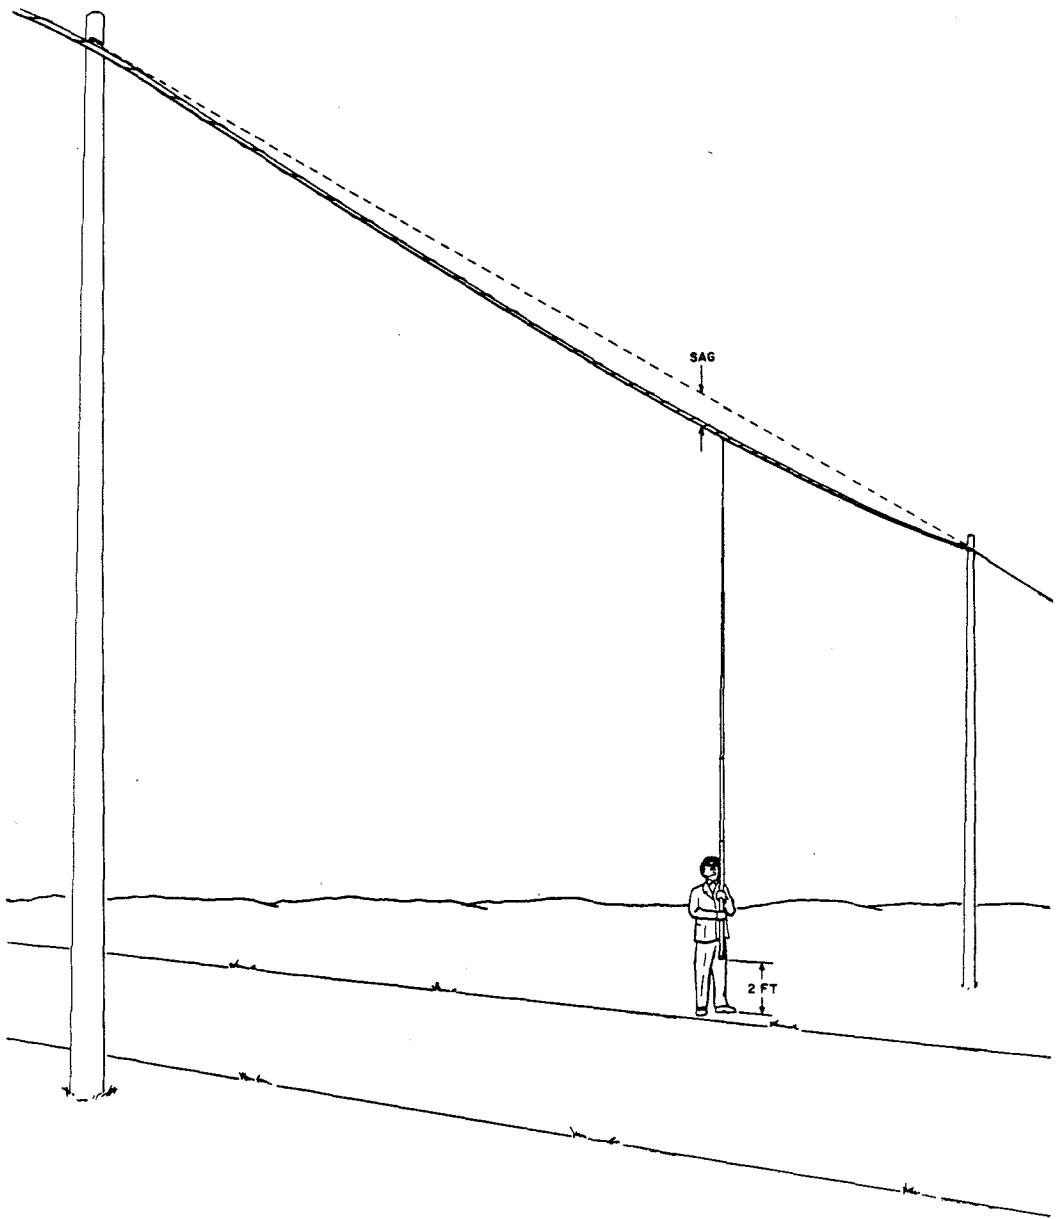

Fig. 19—Making Measurement Greater Than 25 Feet With B Clearance Rule
5.11 Although the rule is only 25 feet long, measurements of heights up to about 28 feet can be made with little loss of accuracy. The basic procedure remains the same in that the tip of the rule is brought into contact with the underside of the wire being measured. However, it is necessary to raise the bottom of the rule off the ground (Fig. 19). If a second craftsman is present, he should measure the distance from the bottom of the rule to the ground with a steel tape, folding